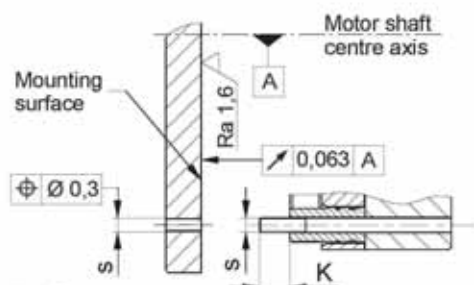

Fig. 5
- ❑ On hub designs (Type 8012\_1\_\_3), the hub bore (10) tolerances and the shaft must be selected so that the hub toothing (10) is not widened. Widening of the toothing leads to the rotor (3) jamming on the hub (10) and therefore to brake malfunctions. Recommended hub - shaft tolerance H7/k6. If the hub (10) is heated for better joining, the O-ring (11) must be removed beforehand and re-mounted after hub installation. The max. permitted joining temperature of 200 °C must not be exceeded.
- ❑ Dimensioning of the key connection according to the requirements shaft diameter, transmittable torque and operating conditions must be carried out. For this, the corresponding user data must be known or the customer must carry out the dimensioning according to the valid calculation basis DIN 6892. For the calculation, a hub quality of  $Re = 300 \text{ N/mm}^2$  should be used. The length of the key should lie over the entire hub (10).
- ❑ The mounting dimensions and the screw-on surface  $s$  with depth  $K + 2 \text{ mm}$  ( $K = \text{screw projection}$ ) acc. Catalogue or applicable assembly drawing must be given (Fig. 5).